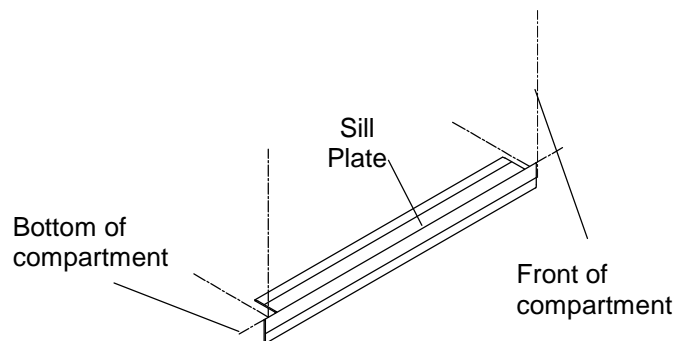

Fig. 3
a) Place the sill plate in the center of the bottom compartment. The notches should be on the top as shown in Fig. 3.